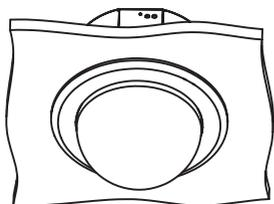

Figure 7
- (7) The installation is completed, please note the minimum ceiling load required is 3.6Kg (7.9 lb). Please refer to Figure 7.